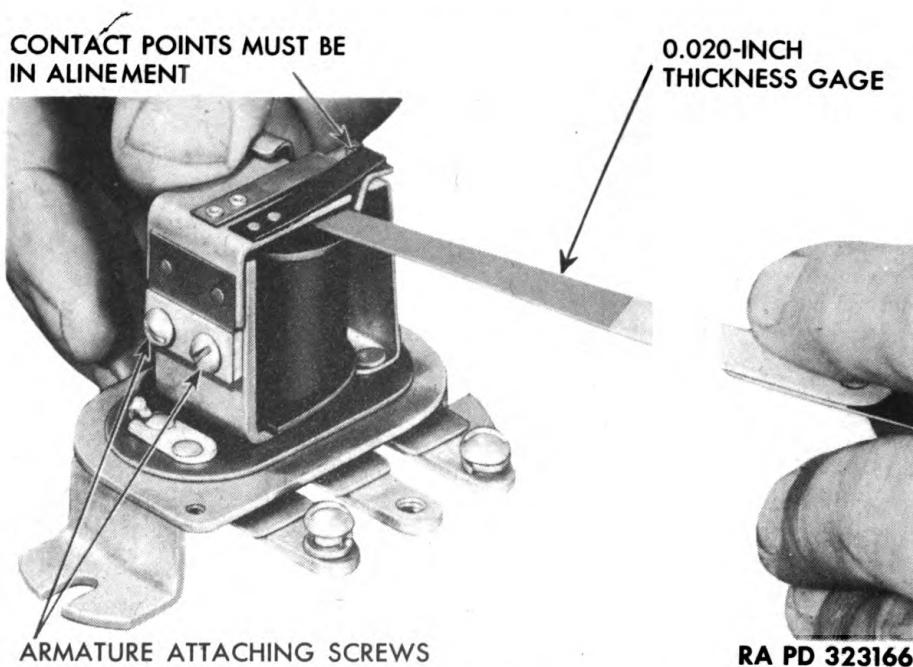

Figure 167 — Measuring Armature Air Gap
a. **Armature Air Gap** (fig. 167). With contact points just closed, the air gap between the armature and core must measure 0.020 inch. This setting is obtained by loosening the two round-head screws attach-